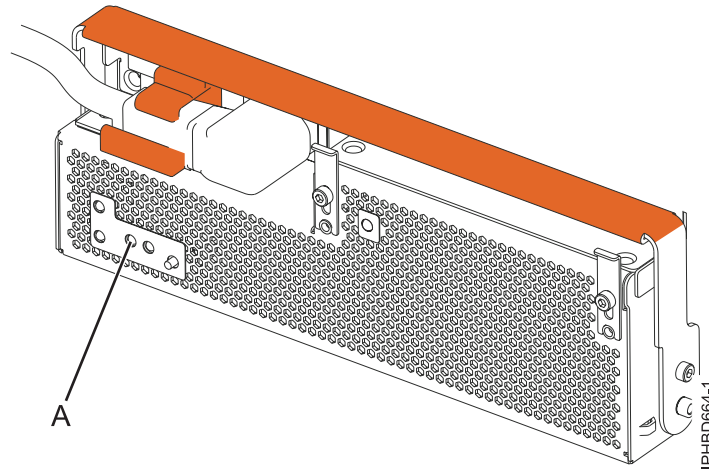

Figure 10. FRU fault and identify LED
4. At the front of the expansion unit, identify the power supply that must be replaced. To identify the power supply, observe the state of the amber field-replaceable unit (FRU) fault and identify light-emitting diode (LED) (A) as shown in Figure 10. A lit (flashing or on solid) LED indicates the failing power supply.